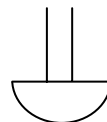

Fig.1 筆輸入 by pen
- 筆尖端 Sharp of pen end : R 0.8 (Refer Fig.1)